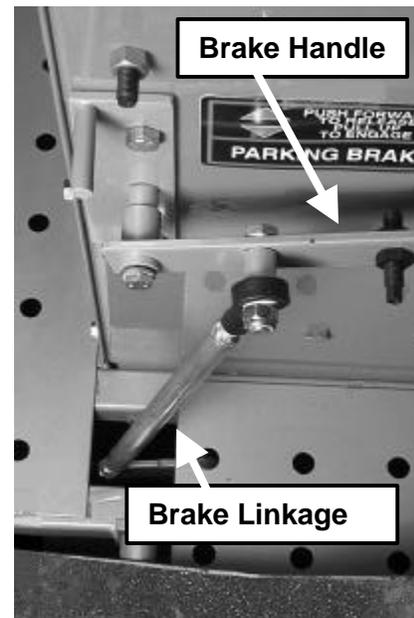

Figure 16: Brake Linkage
3. To adjust brake if needed, remove linkage from emergency brake handle (*Figure 16*) using two 1/2" wrenches.